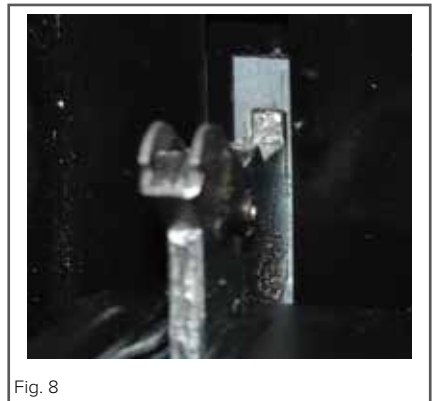

Fig. 8
- Next, ensure the notch on the underside of the hinge sits on the lip of the hinge slot. Open the door fully. Each hinge should be seated in the same way as the hinge in fig. 8. If it is not, follow the steps for removing the door and try replacing it again.